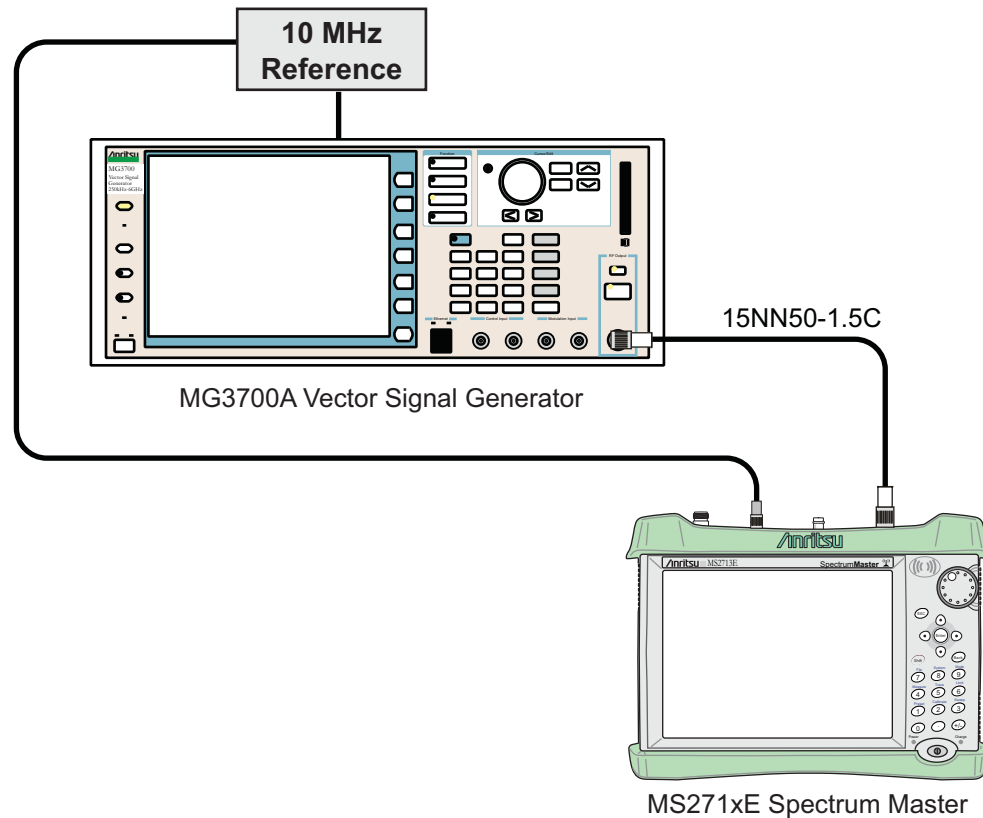

Figure 3-3. ISDB-T Signal Analyzer Test Setup
1. Connect the equipment as shown in Figure 3-3.
1. Connect the equipment as shown in Figure 3-3 on page 3-11.
7. Set the mode of the MS271xE to **ISDB-T Signal Analyzer**. Press the **Shift** key and the **Preset** (1) key, and then press the **Preset** submenu key to preset the instrument.